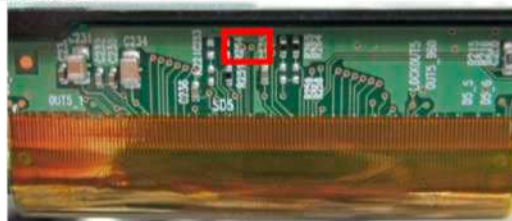

FIG. 3 Measure point
2. Response time is the time required for the display to transit from any gray to white (Rise Time, TrR) and from any gray to black (Decay time, TrD). For additional information see the FIG. 3.